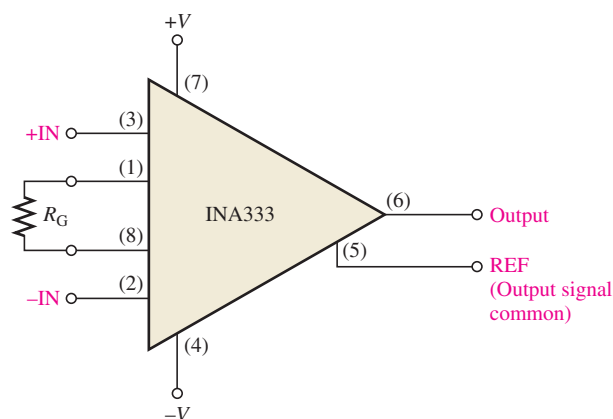

FIGURE 5
**Setting the Voltage Gain** For the INA333, an external resistor must be used to achieve a voltage gain greater than unity, as indicated in Figure 5. Resistor  $R_G$  is connected between the  $R_G$  terminals (pins 1 and 8) as indicated in Figure 5. No resistor is required for unity gain. Resistor  $R_G$  is selected for the desired gain based on the following formula: